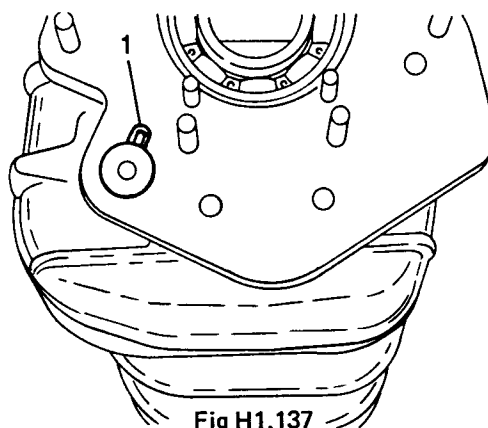

Fig H1.137
- (6) Refer to Fig H1.137. Finish pushing home the shaft, by means of a press or plastic hammer, until the rear part of the shaft is level with the rear part of the casing and spring pin (1) must be perfectly housed in the groove of the casing.
- (7) Refit the gearbox housing (see Sub-sub-section H1.3, Chapter 13).